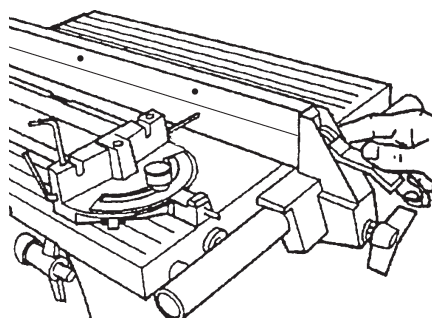

Figure 81
3. Move the Rip Fence toward the Allen Wrench until it just touches it. Lock the Base Knob and Handle on the Base to secure both ends of the Rip Fence. See Figure 81.